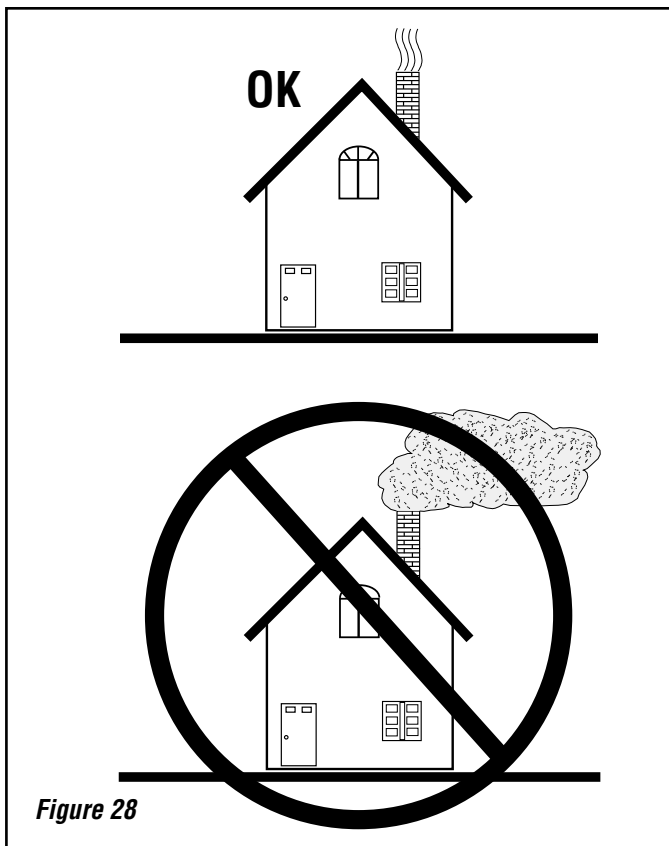

Figure 28
6. Go outside and check your chimney. More than a very small amount of smoke indicates wasted heat, creosote build up and pollution (*see Figure 28*).